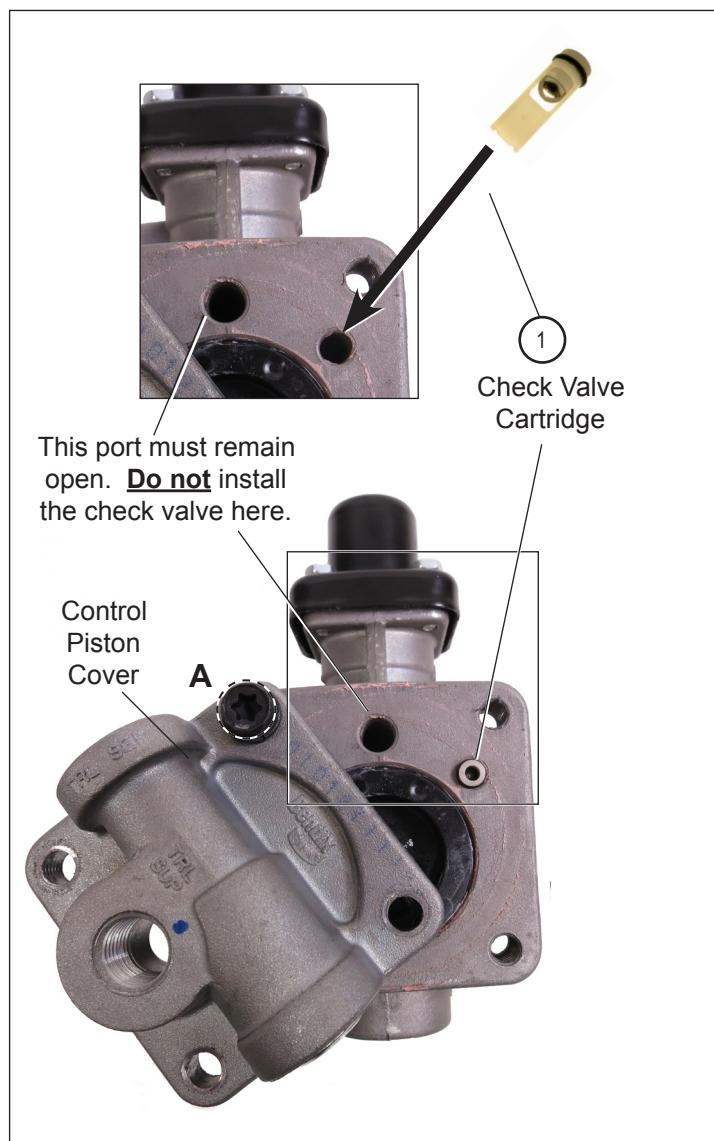

Figure 8 – Check Valve Cartridge Installation
1. Ensure that the check valve cartridge (1) is intact as shown in Figure 8.
2. Holding the larger diameter (o-ring end) of the check valve cartridge (1) insert the pointed end into the air passage. Push the check valve cartridge (1) in lightly with your finger until it is flush with the body housing. (Refer to Figure 8.)